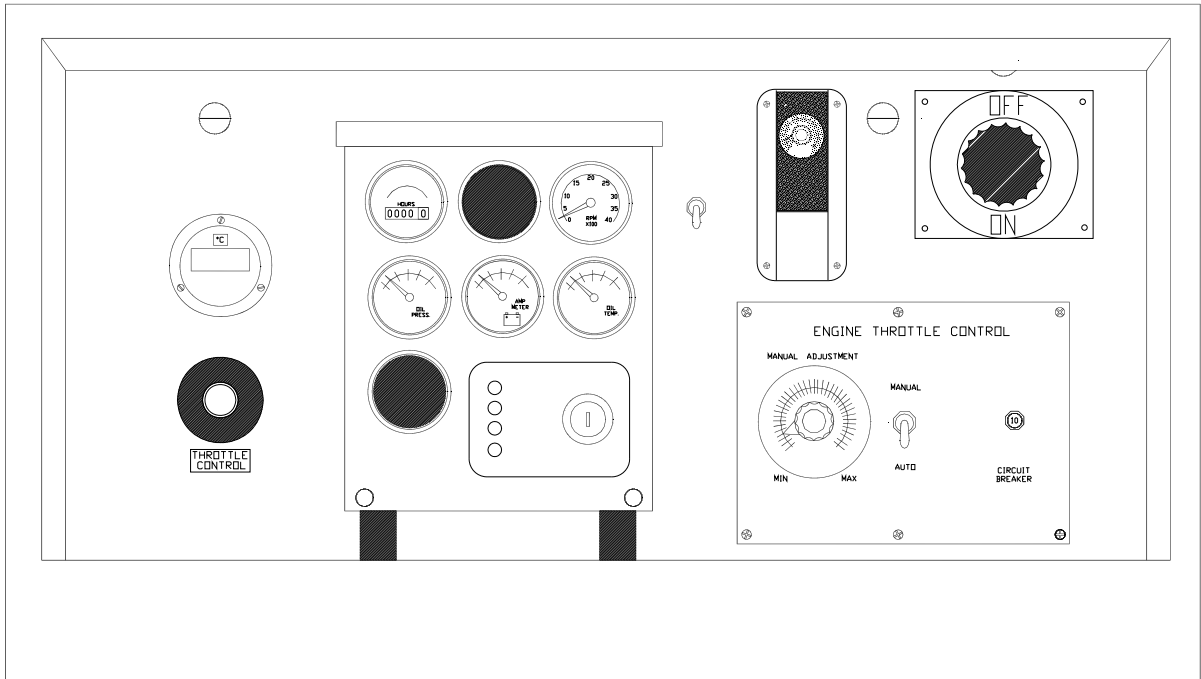

Figure 2. Operator Control Panel
A. To Start-Unit. (Figure. 2, Section 1-2 and Figure 16, section 4-3):
- (1) Open throttle control approximately 1/2 inch (12.5mm).
- (2) Rotate unit **OFF/ RUN/START** switch to **RUN**. Glow plug indicator panel light next the **RUN** switch illuminates ON. When glow plug indicator goes OUT, rotate **OFF/RUN/ START** switch to **START**, until engine starts, then release **START** switch back to **RUN** position.
- (3) Allow unit to idle (at 1500 RPM) for approximately two minutes before choosing desired speed.